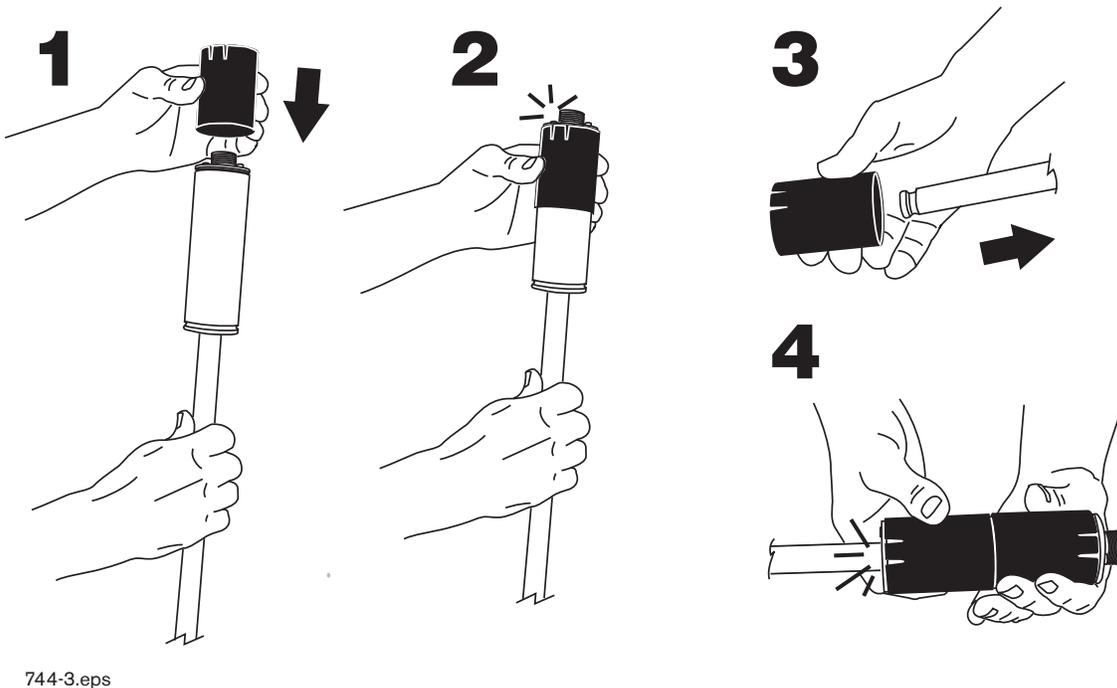

Figure 7. Installing Probe Canister Insulator Sleeves
2. Install the two canister sleeves onto the probe canister as shown in Figure 7.